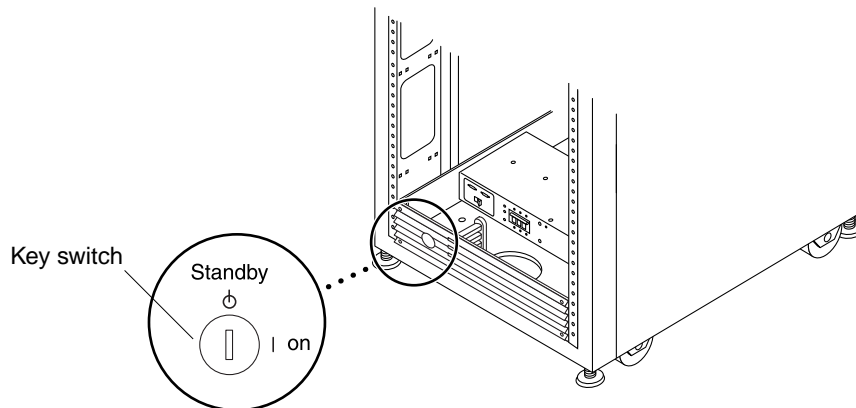

FIGURE 3-1 Location of Key Switch on Bottom Front Panel
1. Verify that the key switch located at the bottom front of the expansion cabinet is in the Standby position (FIGURE 3-1).
2. **Turn the key switch located at the front of the cabinet to the Standby position (FIGURE 3-1).**